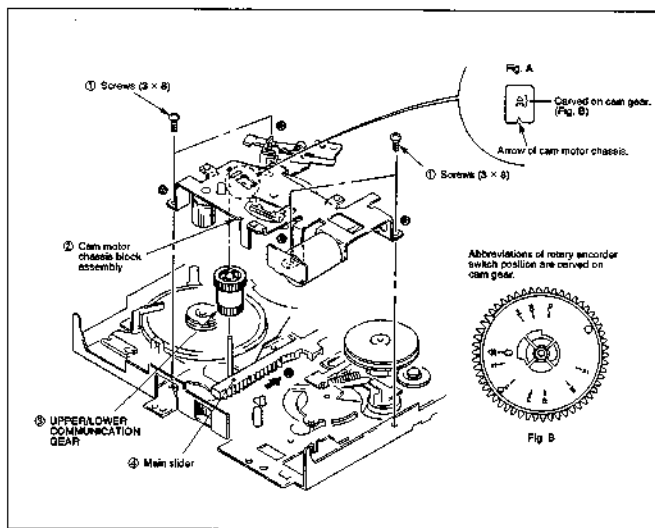

Fig. 3-18
### 3-16. CAM MOTOR CHASSIS BLOCK ASSEMBLY, UPPER/LOWER COMMUNICATION GEAR (Fig. 3-18)
- 1) Set the mechanism to the loading-end condition referring to 1-1. (Cam gear indicates "LE". (Refer to Fig. A and B of Fig. 3-18.))
- 2) Remove tension spring ① in the order ④ to ③.
- 3) Remove stopper washer (2) ② to pull out TG1 assembly ③.